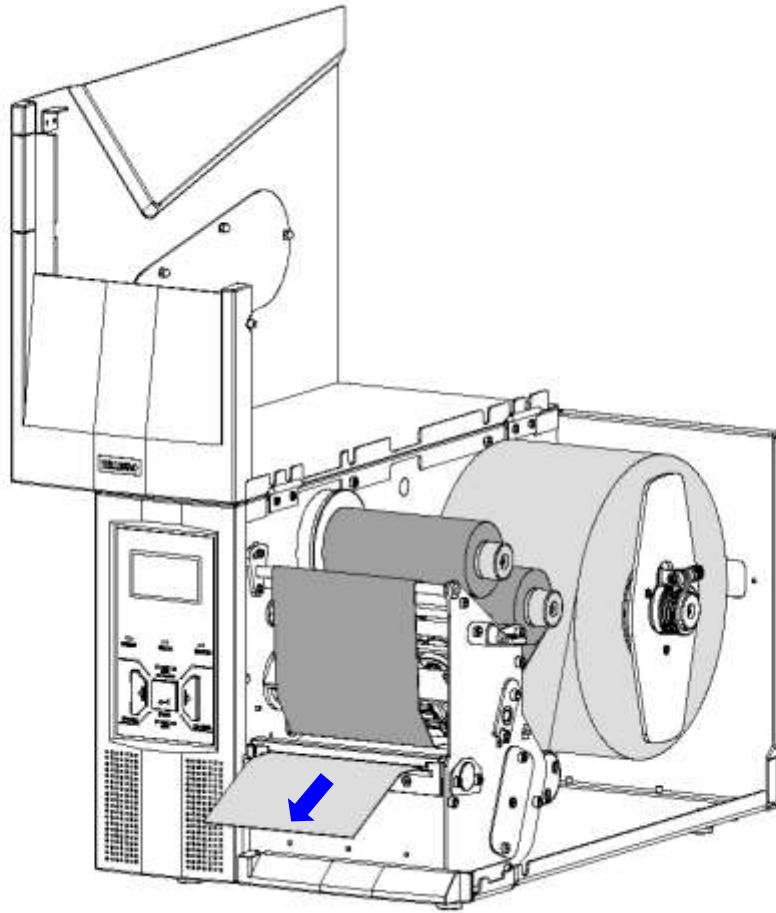

Figure 2-13
5. Put the media pass and under the Printhead Module and the RFID Antenna (Only applied to RFID models). Such as Figure 2-13.